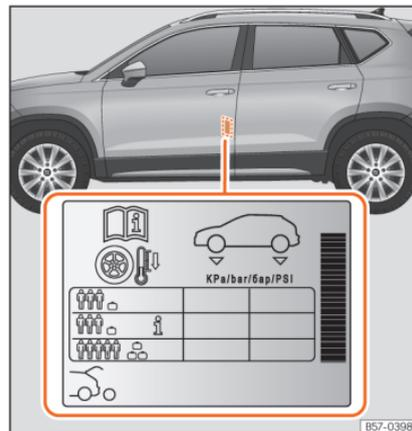

Fig. 229 Location of the tyre pressure sticker.
- Adjust tyre pressure to the load being carried by the vehicle »» **Fig. 229**.
The tyre inflation pressures are listed on a sticker on the rear of the front left door frame »» Fig. 229.
Depending on the vehicle, tyre pressure can be adjusted to medium load to improve driving comfort (tyre pressure **i**) »» Fig. 229). When driving with comfort tyre pressure fuel consumption may increase slightly.
The tyre pressure must be adjusted according to the load the vehicle is carrying. If the vehicle is going to carry the maximum load, the tyre pressure should be increased to the maximum value indicated on the sticker »» Fig. 229.
In the case of a minimised temporary spare wheel (**j**), inflate to a pressure of 4.2 bar as indicated on the tyre pressure label »» Fig. 229.
ded tyre pressure is indicated on the label »» Fig. 229.
- **When the tyres are cold, tyre pressure should be that indicated on the label »» Fig. 229.**